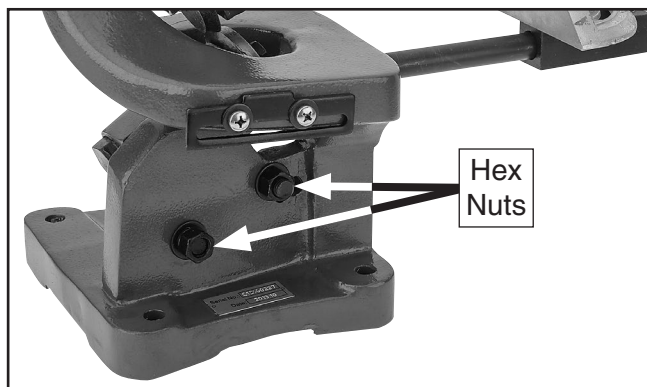

Figure 2. Location of blade adjustment hex nuts.
1. Using a 19mm open-end wrench, loosen both M12-1.75 hex nuts shown in **Figure 2**.